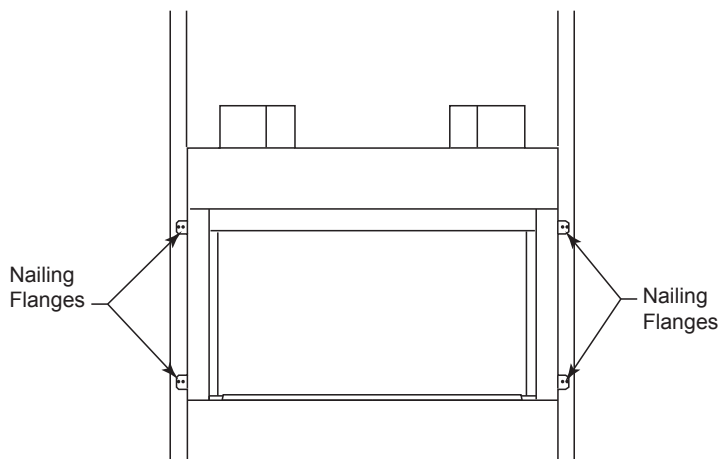

Figure 8 - Side Nailing Flanges
4. Anchor firebox to the side framing members using 8d nails or other suitable fasteners. Figure 8